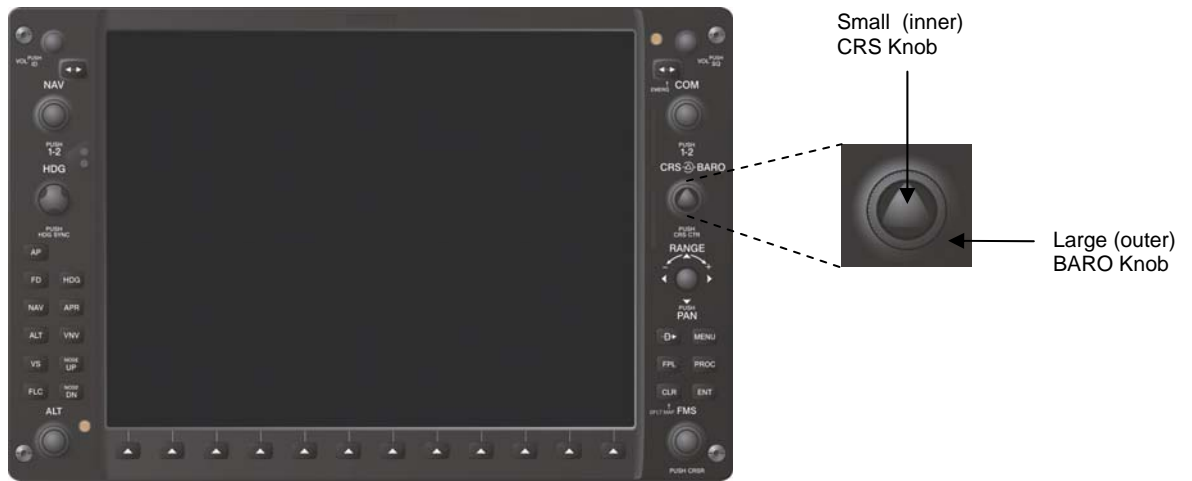
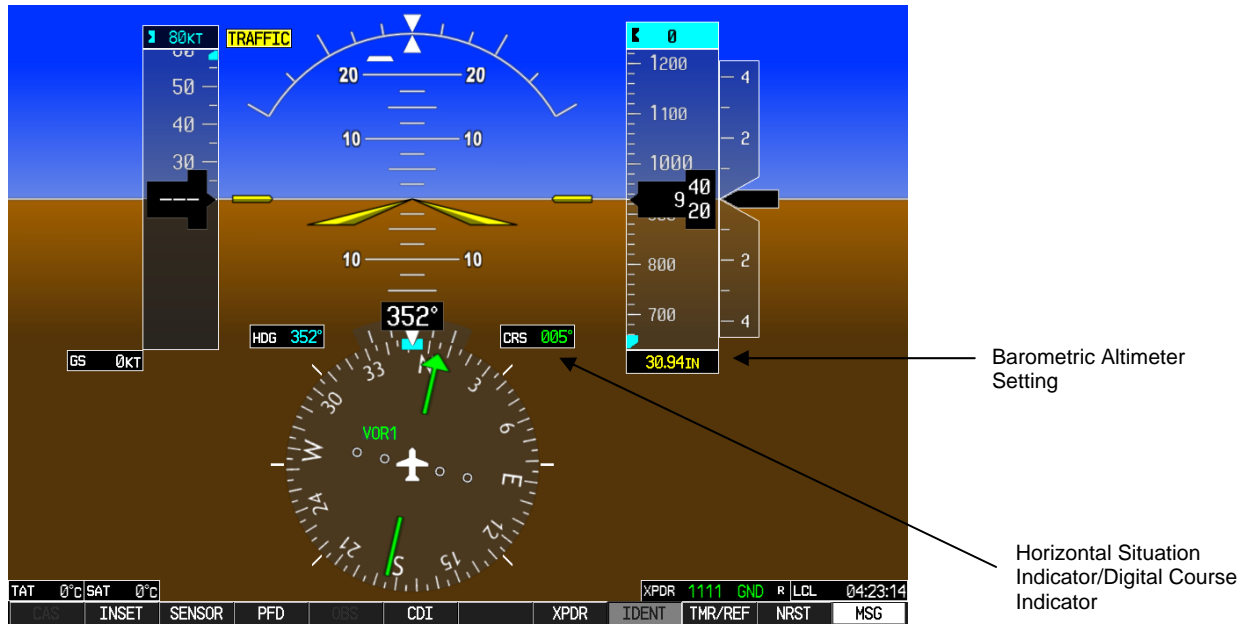

Figure 2
Figure 3
3. Rotate the large (outer) BARO knob (refer to Figure 2) a minimum of three complete revolutions in each direction while monitoring the Horizontal Situation Indicator/Digital Course Indicator (refer to Figure 3) on the PFD. If a change in the Horizontal Situation Indicator/Digital Course Indicator is produced while turning the BARO knob contact your local Garmin Service Center or OEM Dealer to replace the knobs.
4. Rotate the small (inner) CRS knob (refer to Figure 2) a minimum of three complete revolutions in each direction while monitoring the Barometric Altimeter Setting (refer to Figure 3) on the PFD. If a change in the Barometric Altimeter Setting is produced while turning the CRS knob contact your local Garmin Service Center or OEM Dealer to replace the knobs.